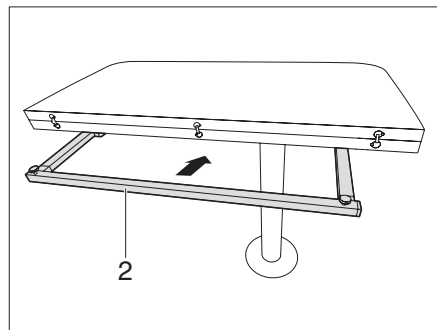

Fig. 79 Push in the folding table base
- Push in the table base (Fig. 79,2).